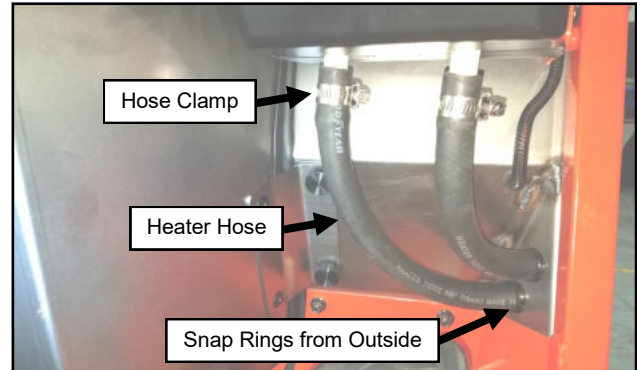

Fig. 2.2 (Snap Rings and Heater Hose)
- 2.2 From outside the cab, remove both dome plugs, and install both  $\frac{3}{4}$ " snap bushings into the large holes in the right A-pillar floor board. Feed both ends of the  $\frac{5}{8}$ " diameter hose through the bushings to the inside of the cab, connect them to the nipples on the heater, and secure them with 1" hose clamps. See Figure 2.2.